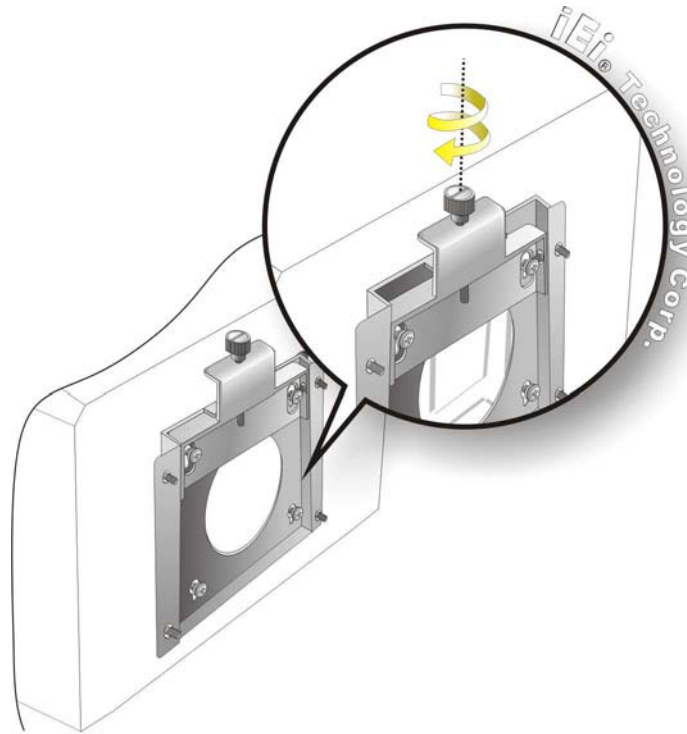

Figure 3-13: Secure the Panel PC
Step 9: Secure the panel PC by fastening the retention screw of the wall-mounting bracket. (Figure 3-13).